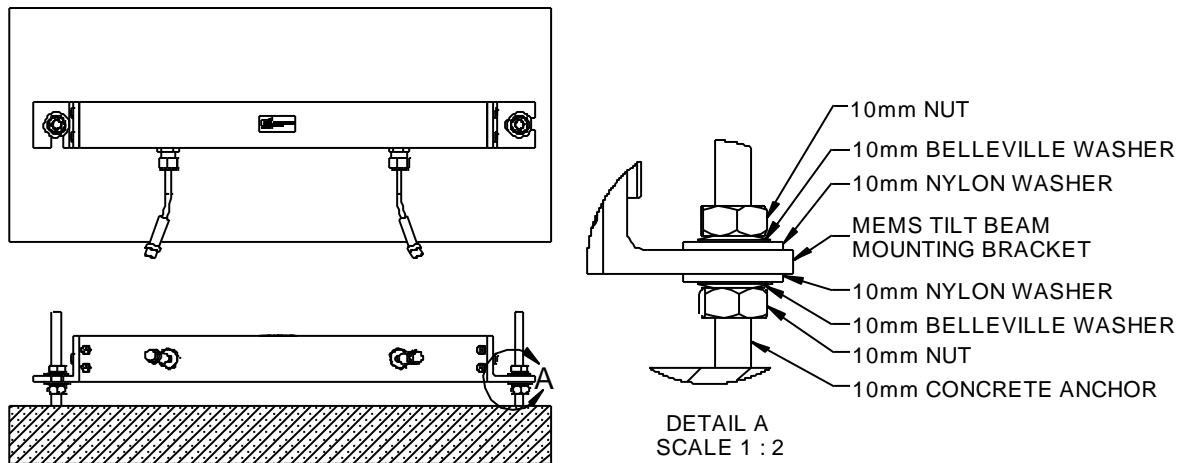

Figure 5: Single Beam Mounting Details
2. Place a Belleville washer over each anchor (see Figure5)
7. Place a Belleville washer over each anchor (see Figure5)
9. For a **single** beam installation, where (2) Belleville washers are used per anchor, turn the nut 2-3 wrench flats (120°-180°) (see Figure 5)
10. For a **double** beam installation, where (4) Belleville washers are used per anchor, turn the nut 4-5 wrench flats (240°-300°) (see Figure 5)
7. Place a Belleville washer over the 1st and 2nd anchors (see Figure 5 or 6)